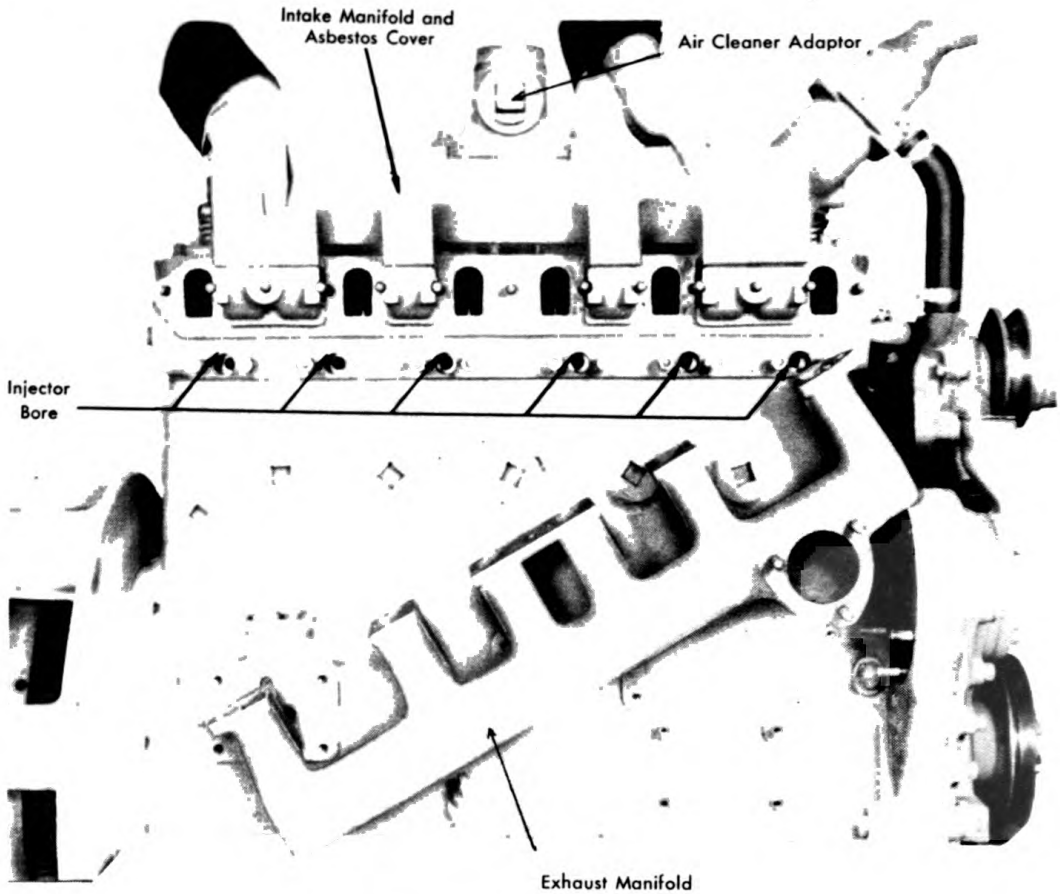

Figure 113. Removing Manifold.
9. Remove the intake and exhaust manifold. See Figure 113.